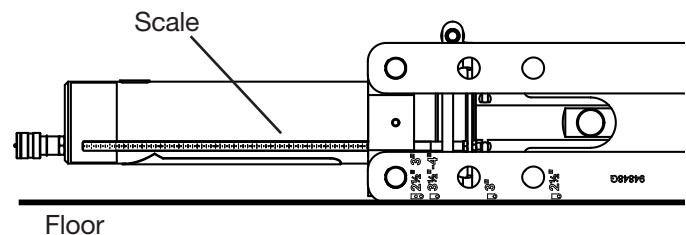

Figure 3
5. Position the cylinder block so the ram scale is toward the floor then slide the ram in between the connecting forks. (Fig. 3)